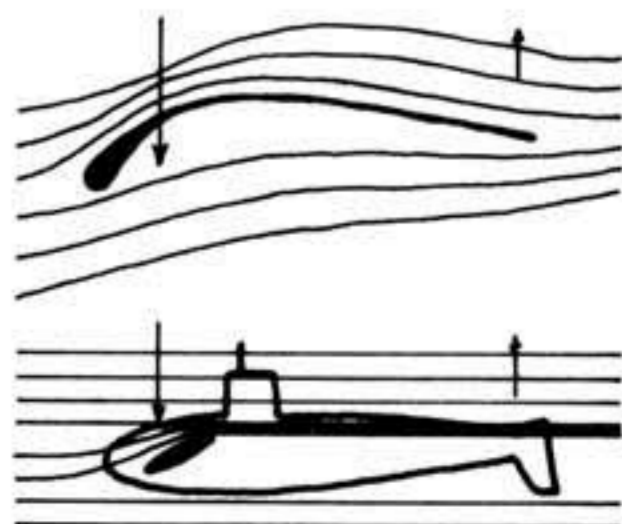

Fig. 16 Negative pitching at very low angles of attack.
7.2 At all 'normal' angles of attack this is no problem. Whereas a flexible battened sail with this characteristic aerofoil sewn in will collapse at angles approaching zero, a preformed rigid batten will not. I believe that there can be a sudden build up of pressure above the leading edge and coinciding with peak camber of some sections. The result can be a sudden and violent increase in negative pitching. I make the visual analogy of a submarine at high speed suddenly giving full deflection to its dive fins. See Fig.16.